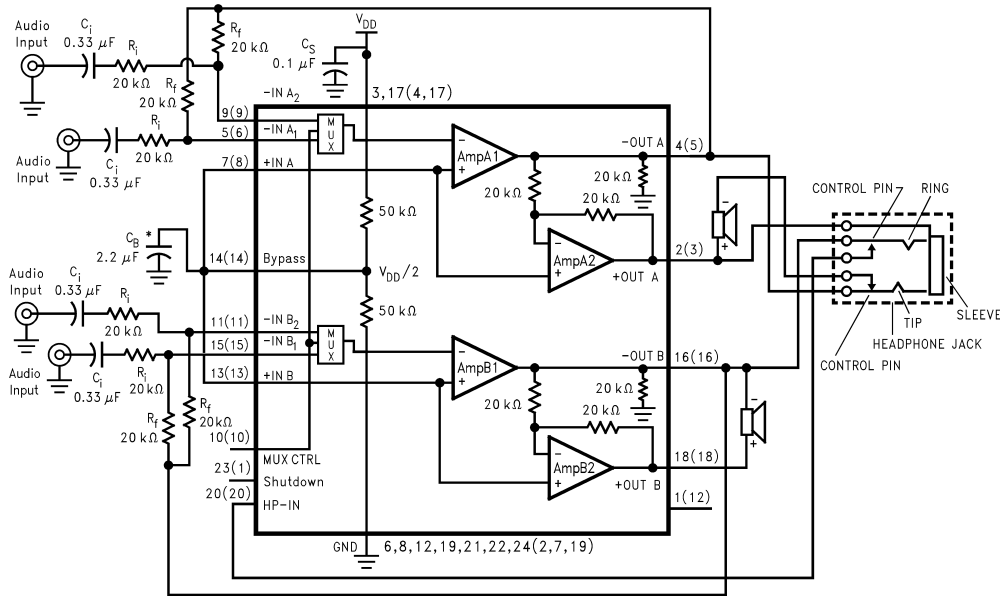

Figure 6. Typical Audio Amplifier Application Circuit
The LM4867's noise-free operation plus coupling-capacitorless headphone operation and functional compatibility with the LM4873 and the LM4863 simplifies upgrading systems using these parts. Upgrading older designs that use either the LM4863 or the LM4873 is easy. Simply remove and short the coupling capacitors located between the LM4873's or LM4863's Amp1A and Amp1B outputs and the headphone connections. Also remove the $1\text{k}\Omega$ resistor between each headphone connection and ground. Finally, remove any resistors connected to the HP-IN pin (typically two $100\text{k}\Omega$ resistors). Connect the HP-IN pin directly to the headphone jack control pin as shown in Figure 6.
As shown in Figure 6, the LM4867 consists of two pairs of operational amplifiers, forming a two-channel (channel A and channel B) stereo amplifier. (Though the following discusses channel A, it applies equally to channel B.) External resistors R_f and R_i set the closed-loop gain of Amp1A, whereas two internal 20kΩ resistors set Amp2A's gain at -1. The LM4867 drives a load, such as a speaker, connected between the two amplifier outputs, -OUTA and +OUTA.
Figure 6 shows that Amp1A's output serves as Amp2A's input. This results in both amplifiers producing signals identical in magnitude, but 180° out of phase. Taking advantage of this phase difference, a load is placed between -OUTA and +OUTA and driven differentially ("commonly referred to as bridge mode"). This results in a differential gain of
The dramatic jump in distortion for loads less than 10Ω occurs when current limiting circuitry activates. During SE operation, AMP2A (refer to Figure 6) drives the headphone sleeve. An on-board circuit monitors this amplifier's output current. The sudden increase in THD+N is caused by the current limit circuitry forcing AMP2A into a high-impedance output mode. When this occurs, the output waveform has discontinuities that produce large amounts of distortion. It has been observed that as the output power is steadily increased, the distortion may jump from 5% to greater than 35%. Indeed, 10% THD+N may not actually be achievable.
Amplifying the lowest audio frequencies requires high value input coupling capacitor (C_i in Figure 6). A high value capacitor can be expensive and may compromise space efficiency in portable designs. In many cases, however, the speakers used in portable systems, whether internal or external, have little ability to reproduce signals below 150Hz. Applications using speakers with this limited frequency response reap little improvement by using large input capacitor.
As shown in Figure 6, the input resistor (R_i) and the input capacitor, C_i produce a -3dB high pass filter cutoff frequency that is found using Equation 7.
As an example when using a speaker with a low frequency limit of 150Hz, C_i , using Equation (4) is 0.063 μ F. The 1.0 μ F C_i shown in Figure 6 allows the LM4867 to drive high efficiency, full range speaker whose response extends below 30Hz.